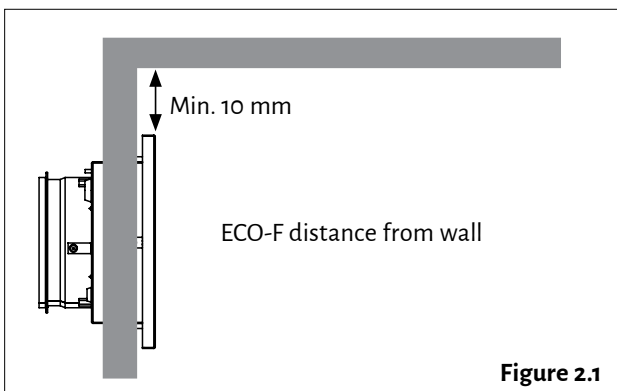

Figure 2.1
2. The minimum distance of the terminal device from the ceiling is 100 mm (see Figure 2.1). Install the terminal device at a minimum height of 1.8 m. Ensure that children cannot get their hands on the device.
3. Detach the grille (2) from the body. Remove the two fastening screws (3) and pull the grille off the body (1).
4. Insert the bottom section duct connector into the inlet air duct, and attach the body to the wall (4) with screws (4 pcs, max \varnothing 5 mm).